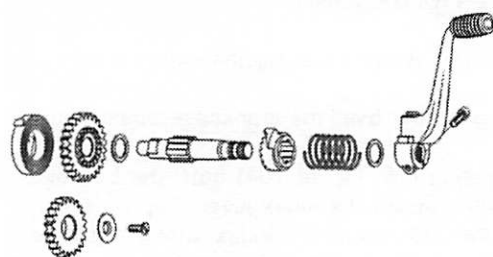

Figure 106
- Refer to Figure 106 when installing the idler gear assembly.
- Refer to Figure 106 when installing the kickstarter assembly.